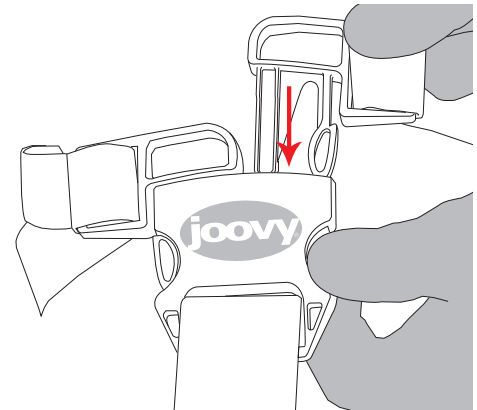

Figure 22
- Bring the seat belt around the child's waist and insert the male ends of the waist buckle into the female buckle. Ensure that they snap into place. See Figure 22.